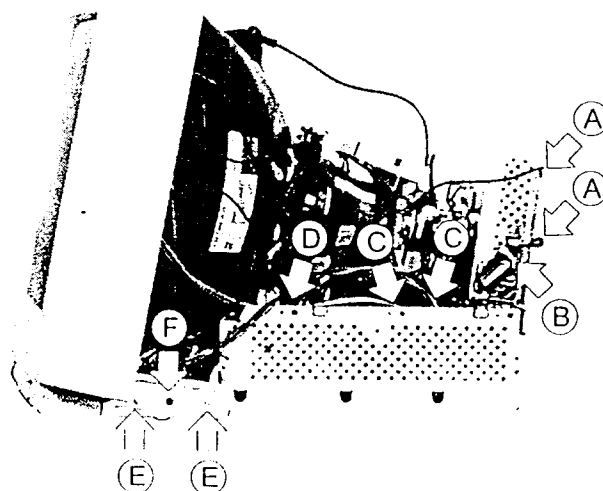

Figure 2-4 Internal Disassembly (Right Side)
1. Disconnect the two ground wires. Refer to the figure 2-4 (A).
2. Remove the connected pin from the Neck Board. Refer to the figure 2-4 (B).
3. Remove the two connected pins from the Main Board. Refer to the figure 2-4 (C).
4. Remove the connected pin from the Main Board to Control Board. Refer to the figure 2-4 (D).
5. Remove the two screws at the bezel. Refer to the figure 2-4 (E).
6. Remove the nylon revets holding from Bezel. Refer to the figure 2-4 (F).